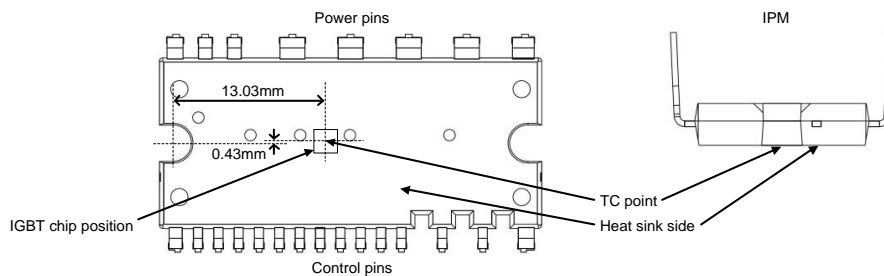

Figure 1.  $T_C$  Measurement Point
2. For the measurement point of case temperature ( $T_C$ ), please refer to Figure 1.